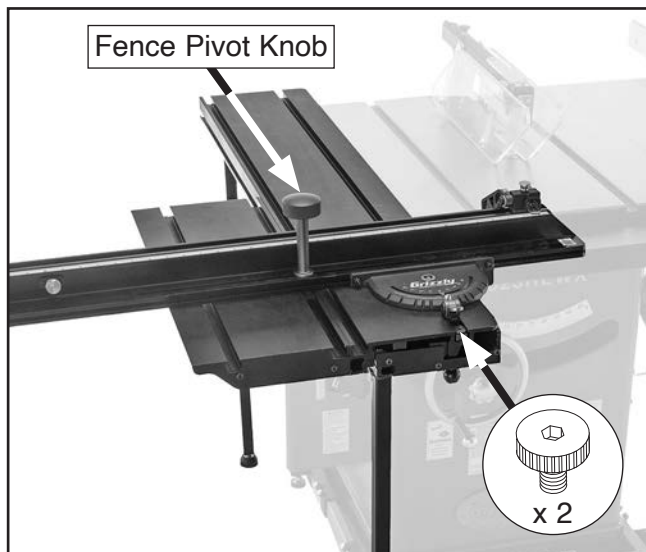

Figure 30. Fence adjusted 90° to blade.
2. Adjust fence 90° to blade (see **Figure 30**), then tighten fence pivot knob and (2) knurled screws.